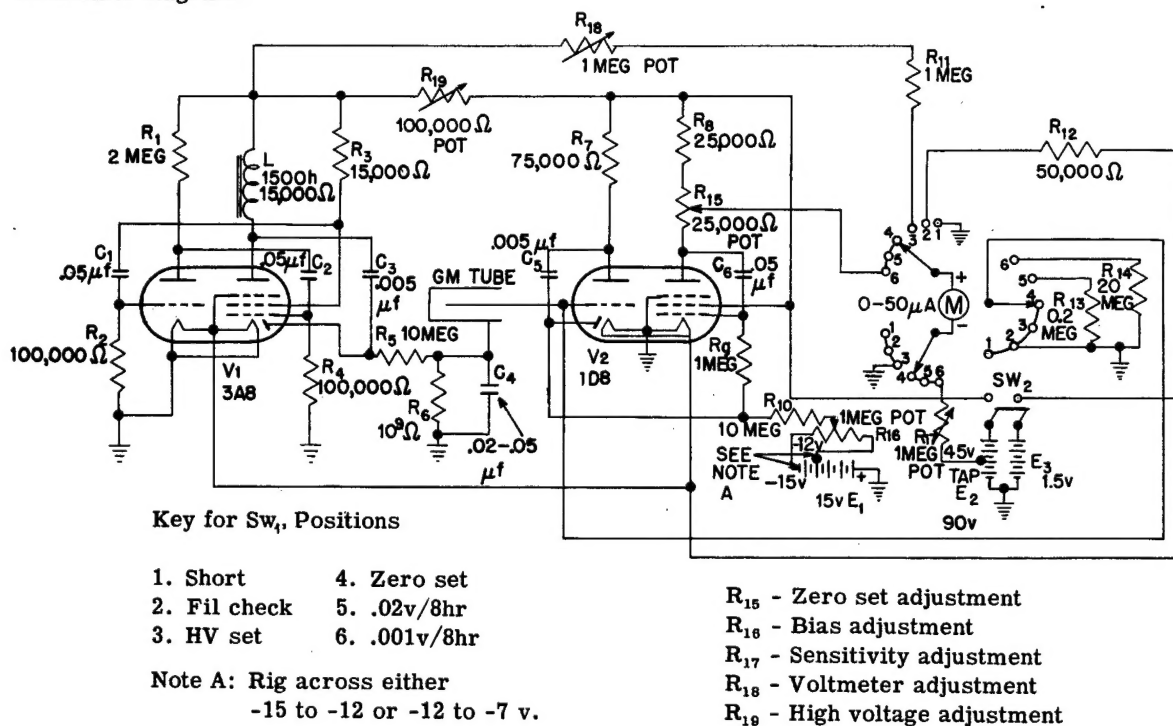
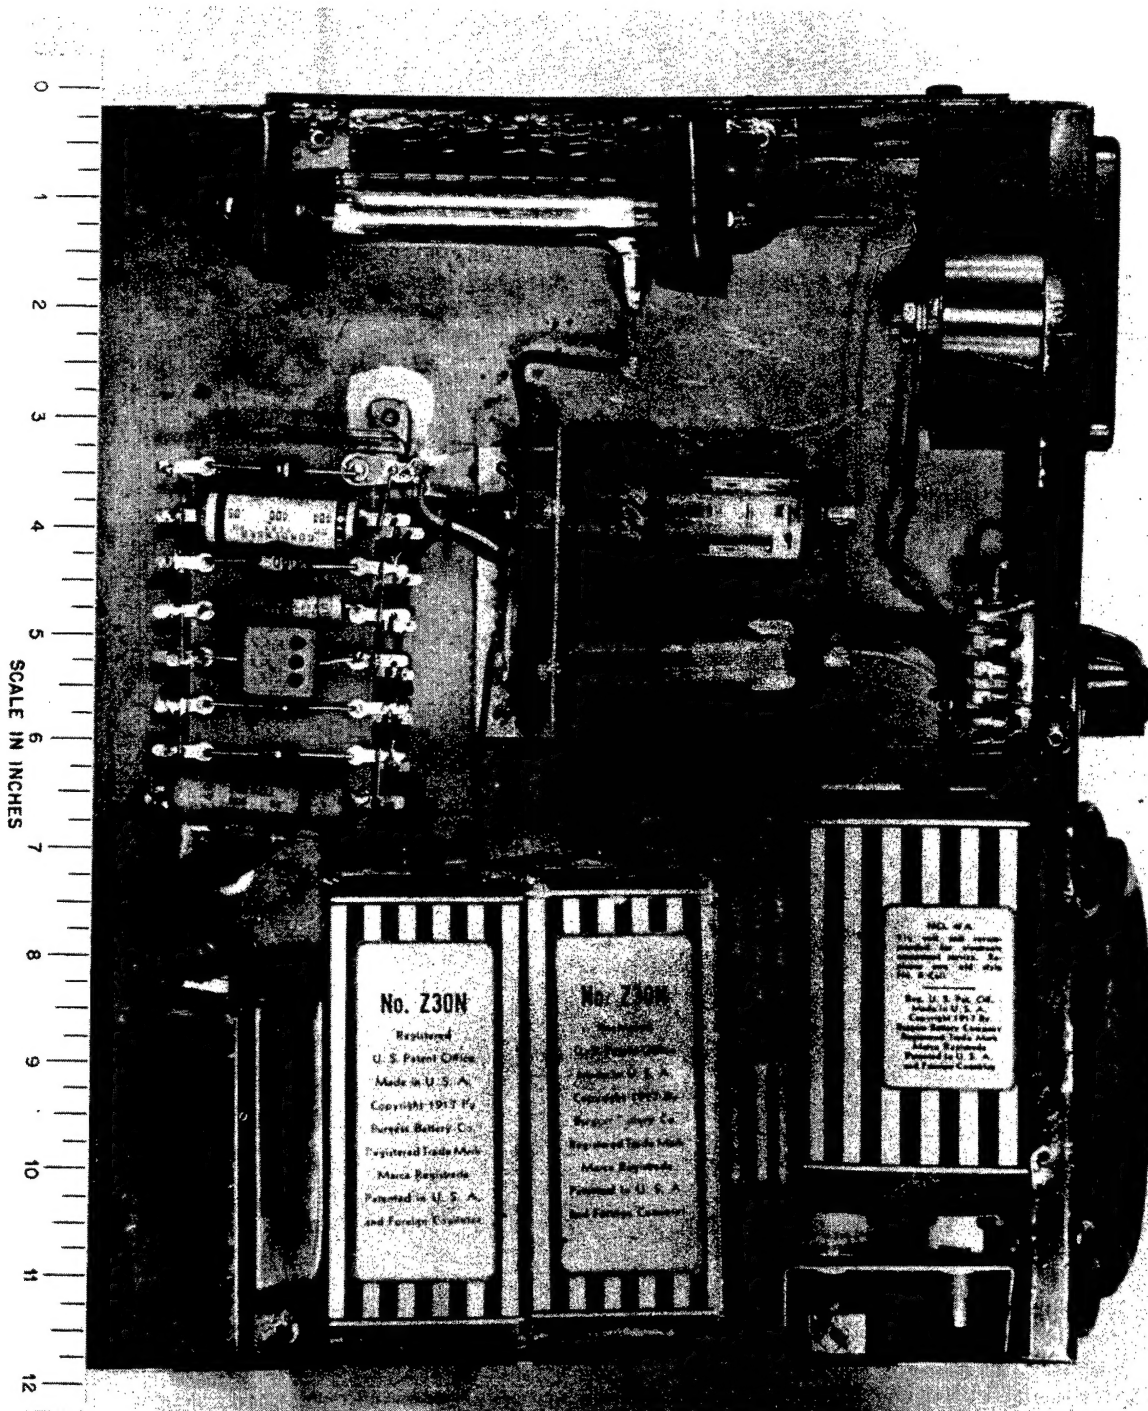
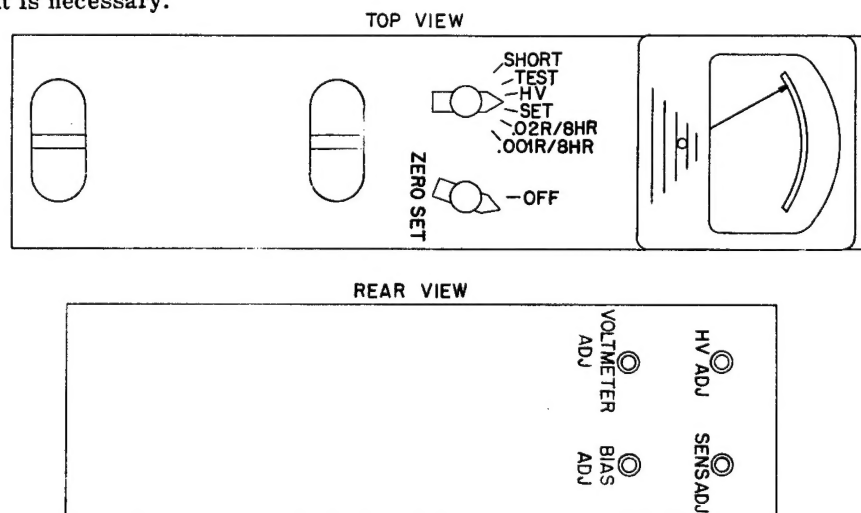

Figure 1. Schematic diagram of portable GM tube survey meter.
Figure 2. Inside view of portable GM tube survey meter.
Figure 3. Diagram showing location and position of labels for portable GM tube survey meter.
The following report gives an explanation of the electrical operation of the Portable GM Tube Survey Meter. Also included is a schematic diagram (Figure 1), photograph (Figure 2), diagram showing location and position of labels (Figure 3) and parts list. The development of the Portable GM Tube Survey Meter is due largely to the work of W. H. Hinch.
To set R_{16} , the Bias Adjustment, put the selector switch on position 4 and turn the zero set adjustment, R_{15} , clockwise about two-thirds of its total movement. R_{16} can be connected across either $-15 v$ to $-12v$, or $-12v$ to $-7\frac{1}{2} v$, whichever gives the proper setting just described (See also Note A on schematic diagram — Figure 1).
1. The electrical circuit must follow exactly that of the schematic diagram (Figure 1).
2. The physical layout must be approximately as shown in the photograph (Figure 2).
3. The labeling for the selector switch, zero set adjustment, bias adjustment, sensitivity adjustment, voltmeter adjustment, and high voltage adjustment is to be as indicated on the included drawing which shows the location and position of the labels (Figure 3).